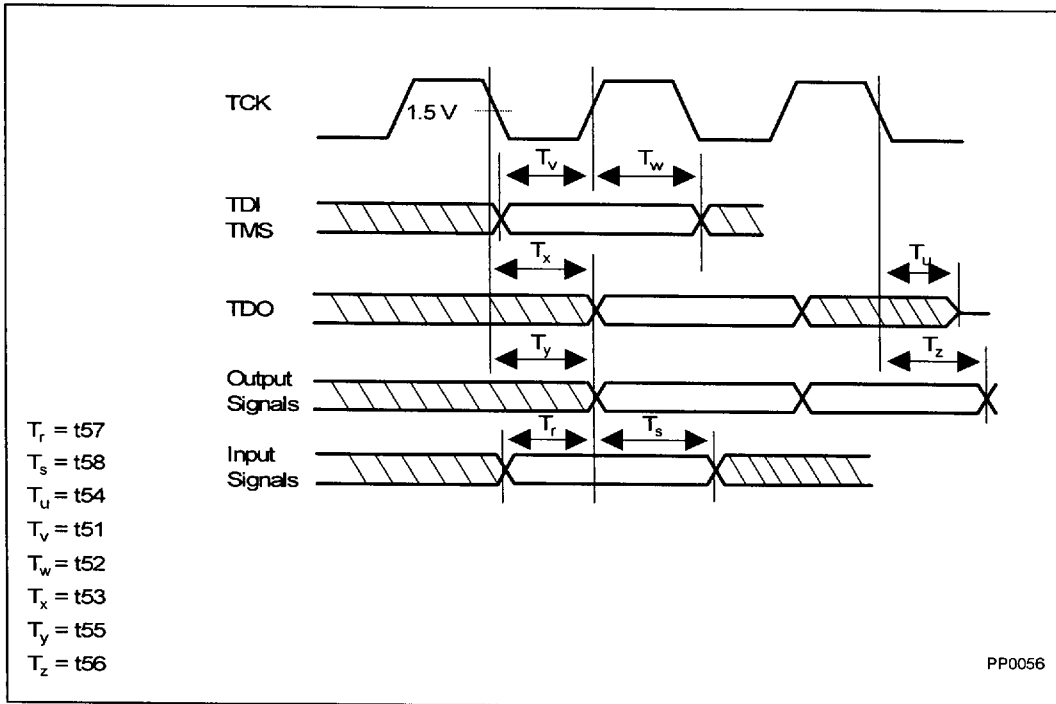

Figure 10. Test Timings
10. This is a flight time specification, that includes both flight time and clock skew. The flight time is the time from where the unloaded driver crosses 1.5V (50% of min V_{CC}), to where the receiver crosses the 1.5V level (50% of min V_{CC}). See Figure 10. The minimum flight time minus the clock skew must be greater than zero.